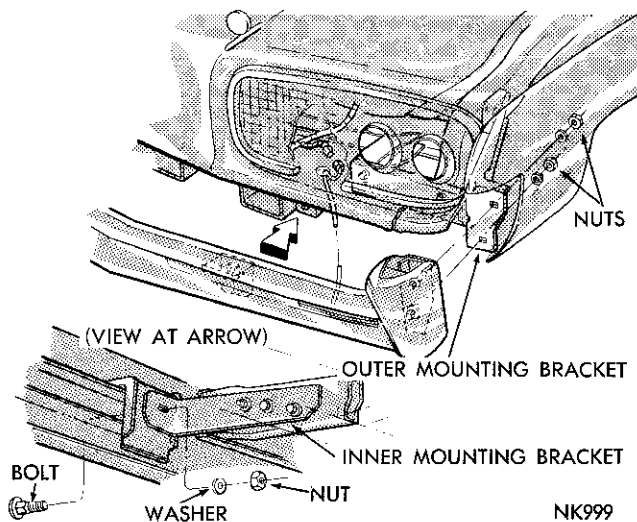

Fig. 4—Front Bumper (Imperial)
- (1) Disconnect the parking lamp wires.
- (2) Support the bumper at the center and remove the bolts and nuts attaching the bumper to the supports at the center and outer ends (Fig. 4).
- (3) Remove the bumper assembly.
- (4) With the bumper removed, remove the parking lamps and turn signal lamps.